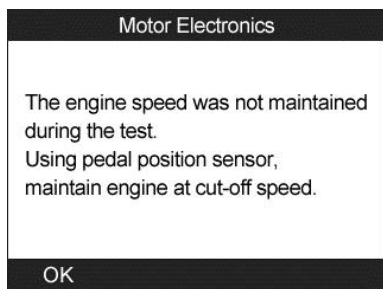

Figure 13-45
- If the engine is not running at cut-off speed, the tool will display a warning message. (Figure 13-45) Select **OK** to repeat the test.